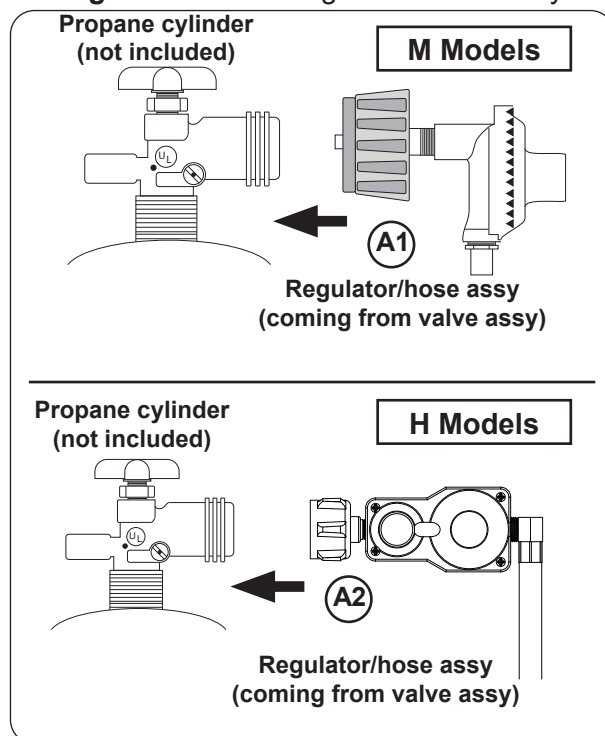

Fig. 30-2 Connecting hose assy to L.P. cylinder
2. Attach the regulator end of the hose assembly to a propane cylinder (not included) and tighten (see Fig. 30-2, A1 or A2).